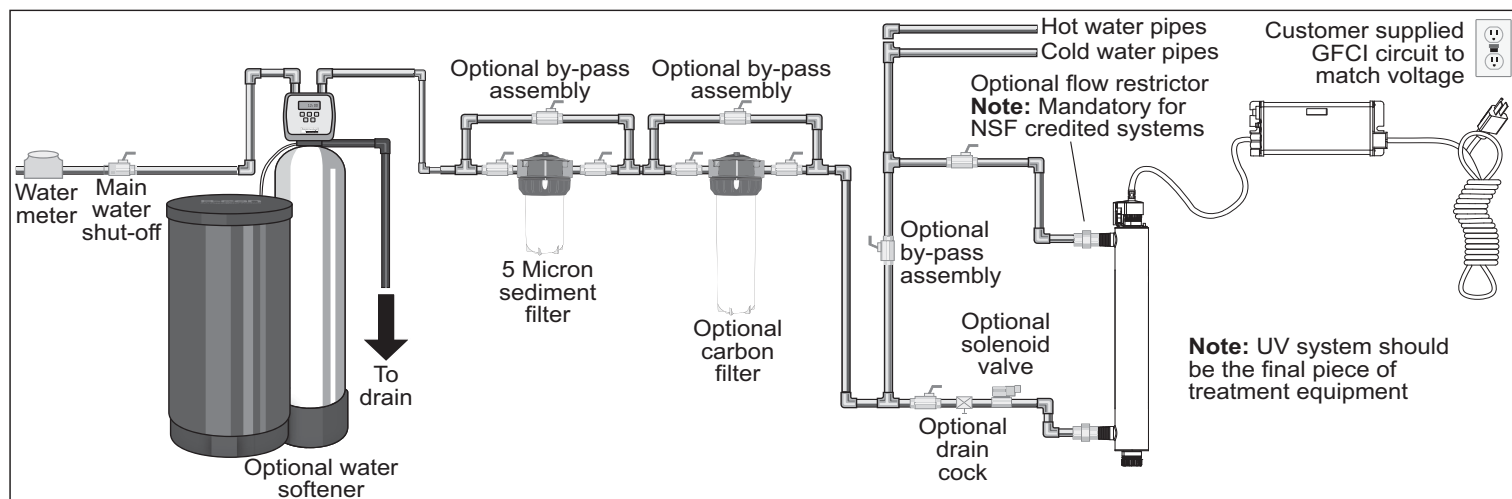

Figure 3 Disinfection System
1. Figure 3 shows the installation of a typical disinfection system and the related components that may be used for the installation. The use of a by-pass assembly is recommended in case the system requires “off-line” maintenance. In this case, note the system requires supplementary disinfection for the distribution system if any water is used during by-pass condition. In addition, during by-pass, the water will NOT be disinfected and a “DO NOT CONSUME THE WATER” tag should be physically installed on the by-pass assembly until such time as the system is sanitized and returned to service. For more information, refer to Section 3.2. If the water is to be consumed while the system is off-line, the water must be boiled for two minutes prior to consumption.